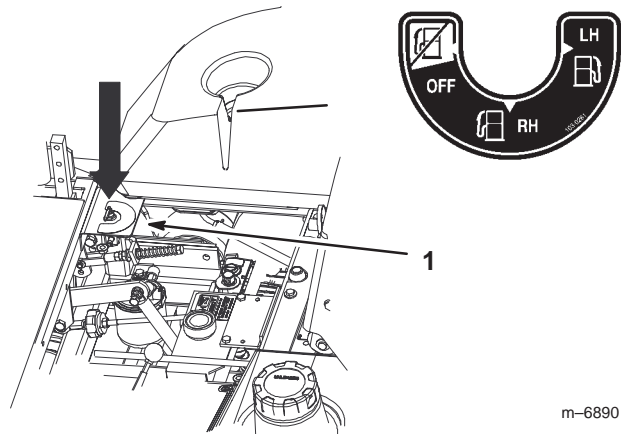

Figure 9
The unit has two fuel tanks. One tank is on the left side and one on the right side. Each tank connects to the fuel shut off valve in the control panel. From there a common fuel line leads to the engine (Fig. 9).
To use the left side fuel tank rotate the fuel shut off valve to the LH, lefthand location. To use the right side fuel tank rotate the fuel shut off valve to the RH, righthand location (Fig. 9).
5. Close the fuel shut off valve before transporting or storing the machine (Fig. 9).